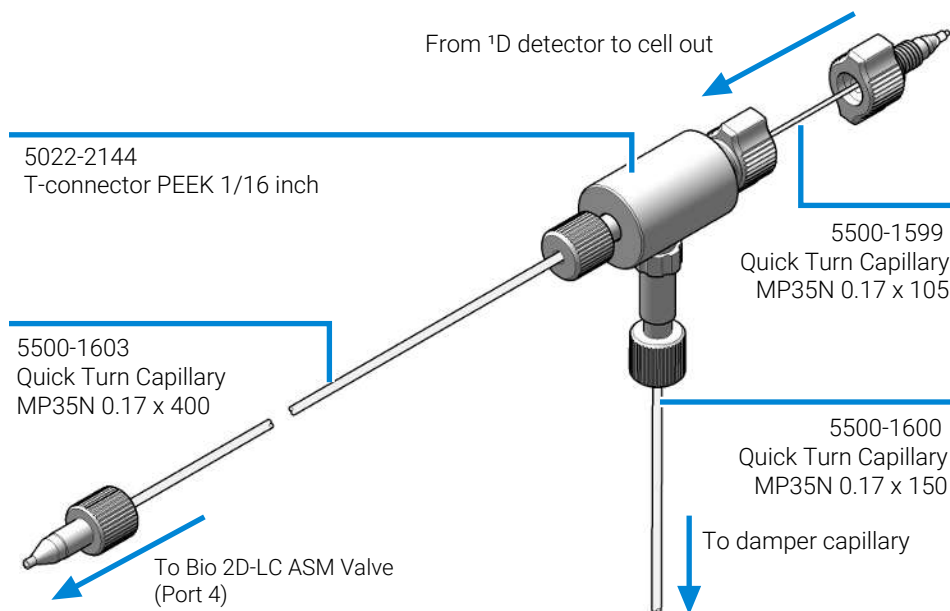

Figure 51: Connections to the pressure release kit
- 5 Connect with the T-piece, see Figure 51 on page 108.